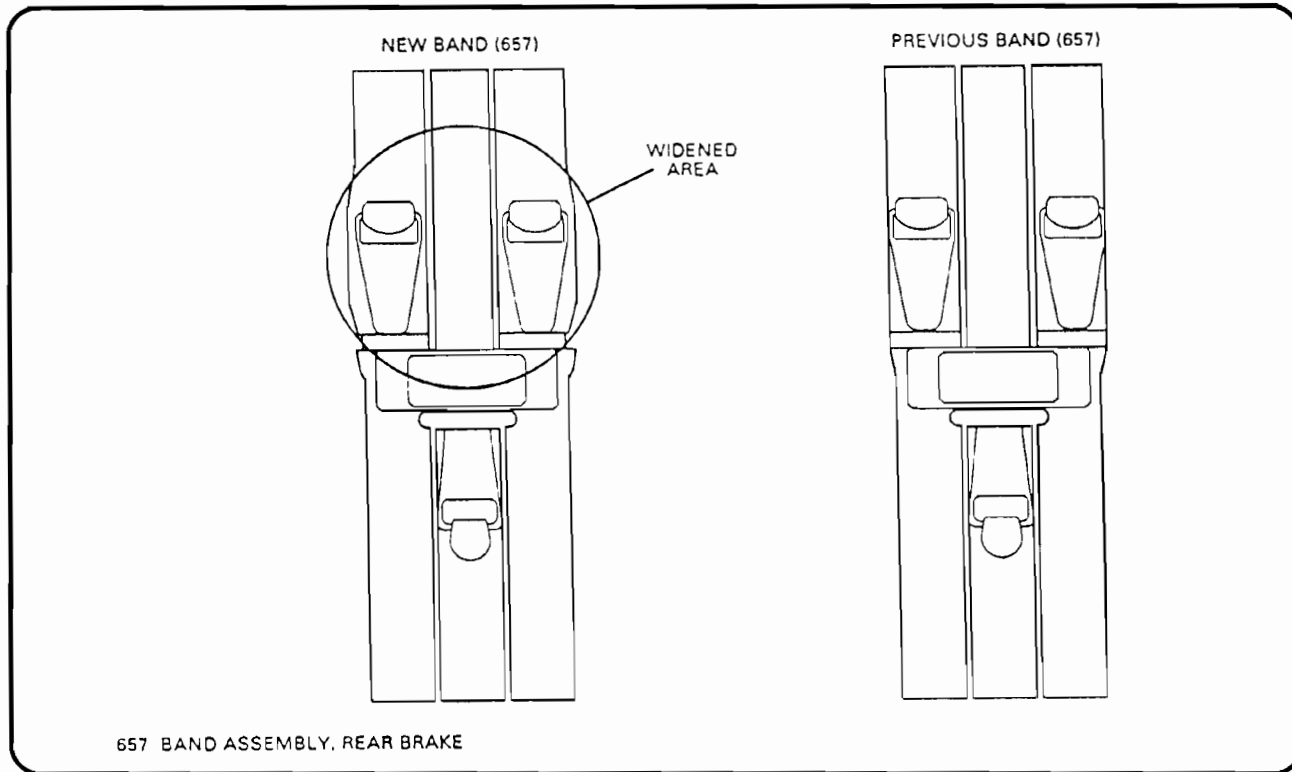

Figure 59
- CORRECTION:** Beginning on April 11, 1992 (Julian Date 101) all THM 4L80-E/4L80-EHD transmissions were built with a revised reverse band assembly which is wider in the band lug area (See Figure 59) , and should be used during all rebuilds.